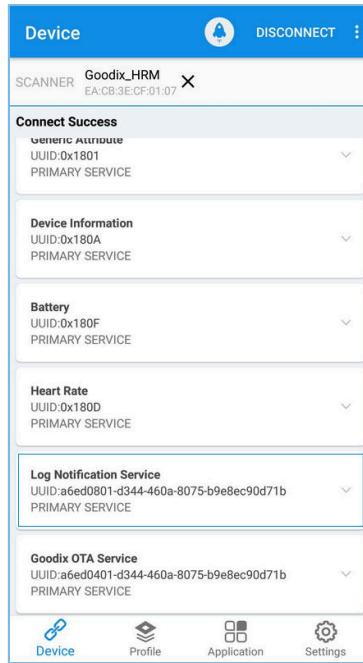

Figure 3-3 Successful discovery of LNS after connecting the phone to the Board on GRToolbox
1. Open GRTToolbox on an Android phone and connect the phone with the SK Board. **Log Notification Service** is then displayed, as shown in Figure 3-3.